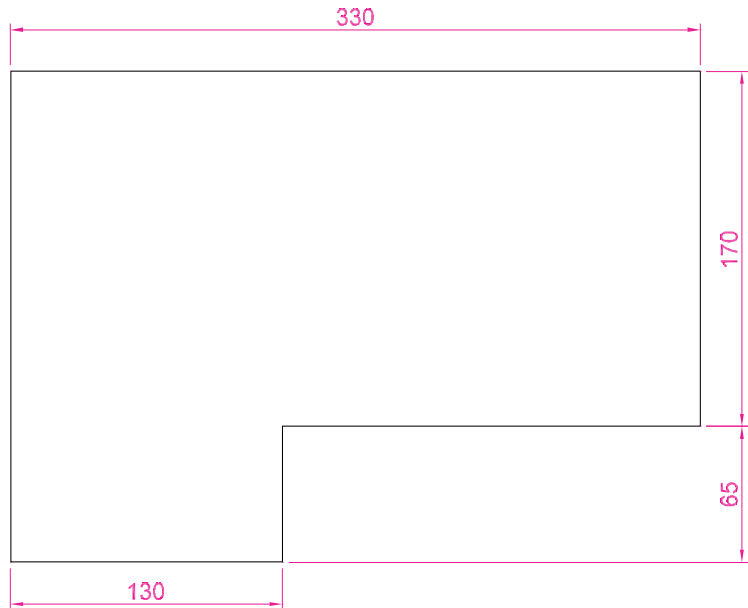
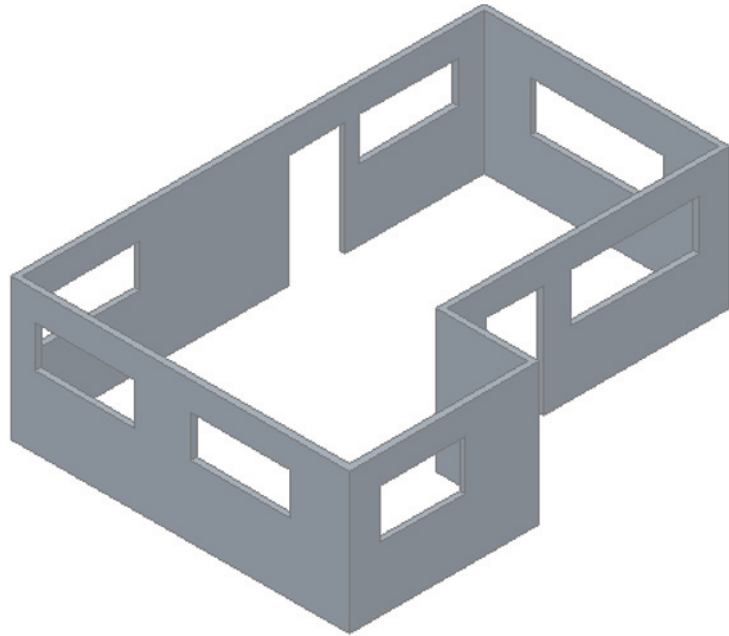

Fig. 13.38 Exercise 1 – outline for polyline
Fig. 13.39 Exercise 1
1. Fig. 13.38 shows the pline outline from which the polysolid outline in Fig. 13.39 has been constructed to a height of **100** and Width of **3**. When the polysolid has been constructed, construct extrusions which can then be subtracted from the polysolid. Sizes of the extrusions are left to your judgement.